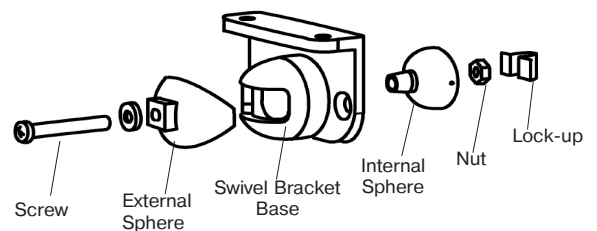

Figure 3 – Swivel Bracket Components
- assemble the swivel bracket in accordance with the Figure 3;